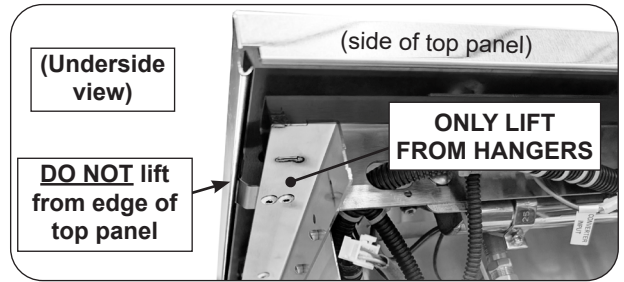

Fig. 4-1 Lift from hangers
- lift directly from underneath at the hangers. See Fig. 4-1.